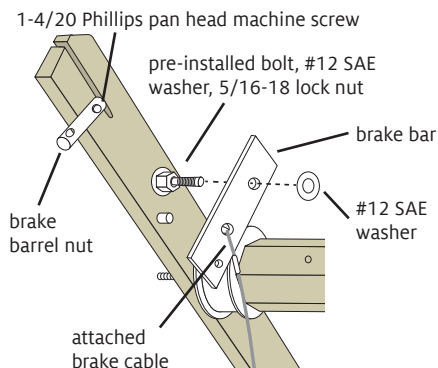

FIGURE 9: BRAKE BARREL NUT AND BRAKE BAR
11. Place the brake barrel nut into position on the right double back beam support, as shown in Figure 9. Secure it using the 1/4-20 x 1" Phillips pan head machine screw, inserted from the outer side of the leg.
12. Locate the pre-installed bolt for the brake bar on the right double back beam support. Remove any packing material. Place a #12 SAE washer and a 5/16-18 lock nut on this bolt and tighten the lock nut with a wrench. Next, install the brake bar and cable on this bolt, orienting it as shown in Figure 9. Add another #12 SAE washer.